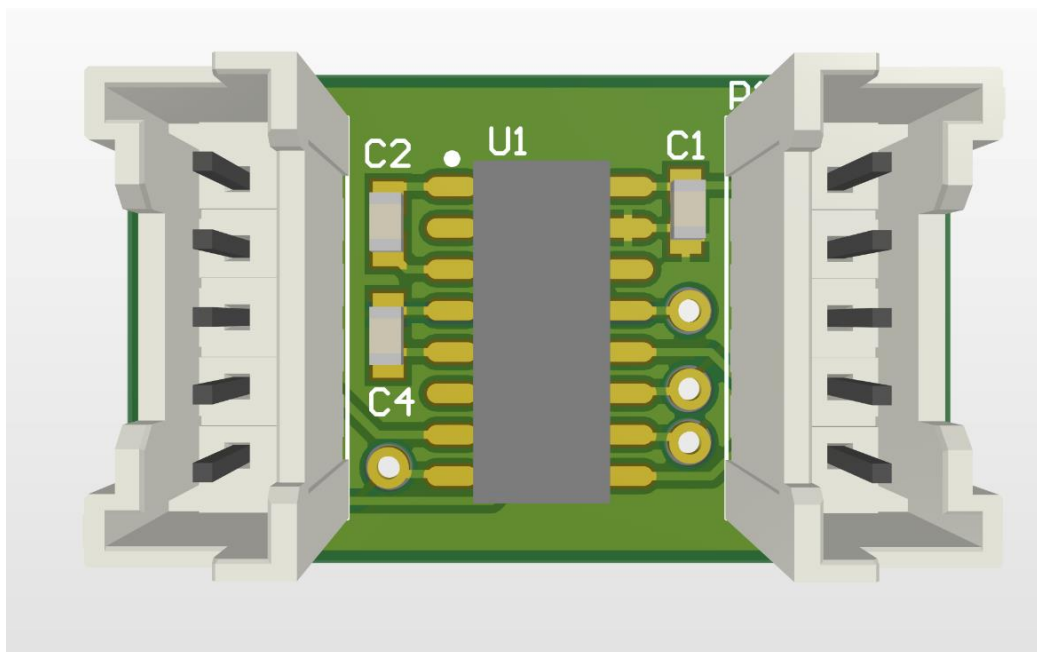

*Figure 23: Finished View of Our Board*
29. Now you're done! Your board should now look like Figure 23.